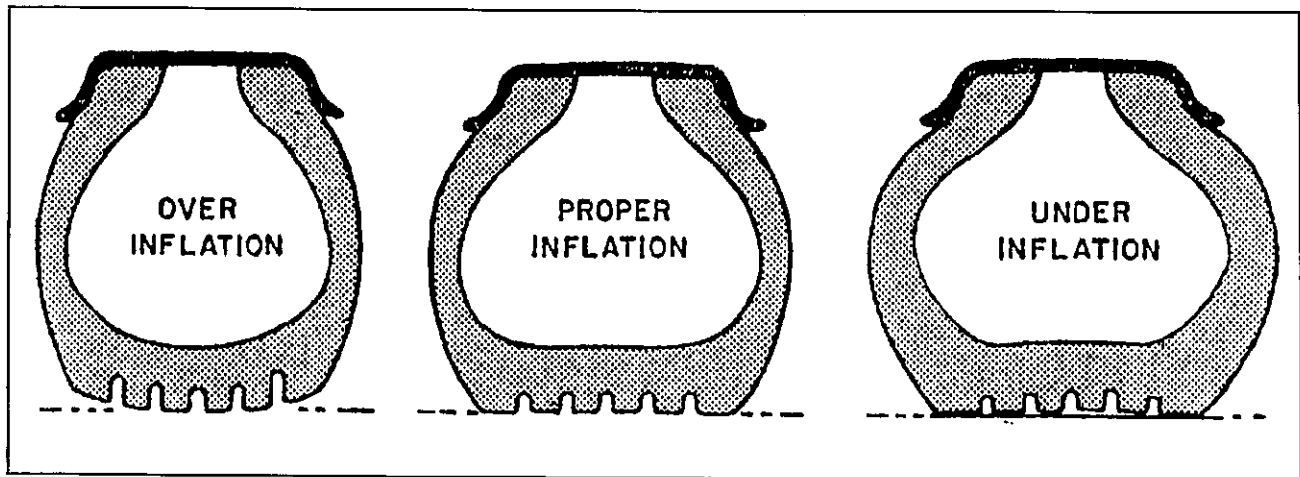

Fig. 4-10 Tire Inflation Examples
**4-11.1 Tire Inflation.** Tire inflation will cause tire to ground contact characteristics as shown in **Figure 4-10**. Tire inflation should be checked daily while the tire is cold, and during road stops. Checking the tire pressures while tires are hot will give a faulty increased pressure reading. Adjusting tire air pressure to the specified amount while tires are hot will produce improper tire to road contact and thus abnormal wear. Do not exceed cold inflation pressure listed on the trailer VIN plate located on the front of the semitrailer. Exceeding cold inflation pressure will result in damaged tire bodies, rims, and wheels. Replace all valve stem caps when pressure checking/adjusting has been completed. remove any foreign objects from between duals.